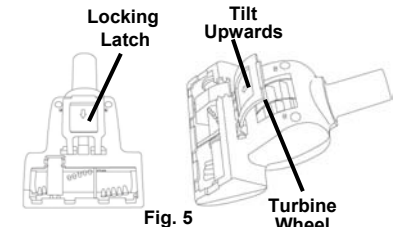

Fig. 5
- Turn turbo brush over and open the hinged cover to access the turbine wheel. (Fig. 5)